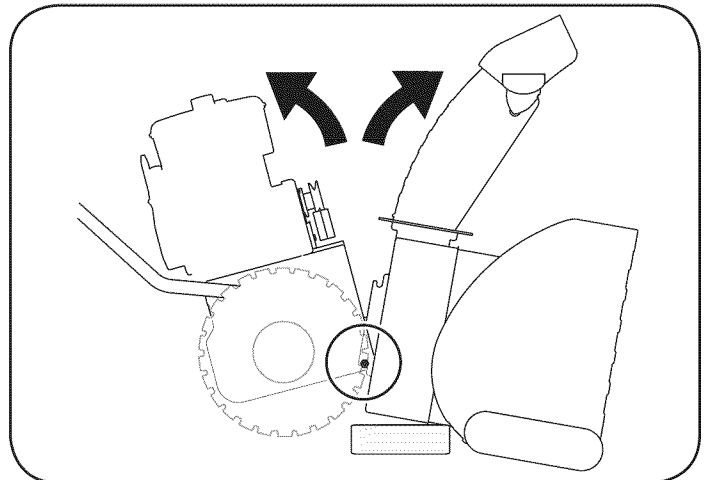

Figure 34
- Place a block of wood underneath the auger housing as shown in Figure 34 and separate auger housing from the frame by tilting the housing forward and pulling up the handles.